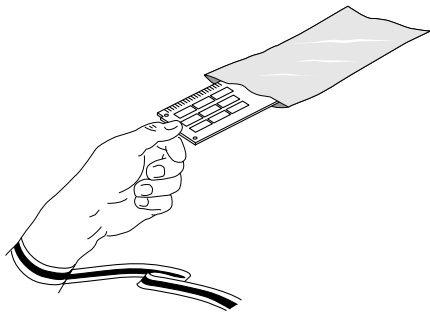

FIGURE 3 Unpacking the DIMM
Caution – Hold DIMMs only by the edges to avoid damaging them (FIGURE 3).
- 3. Unpack the DIMM, holding it only by the edges (FIGURE 3).**